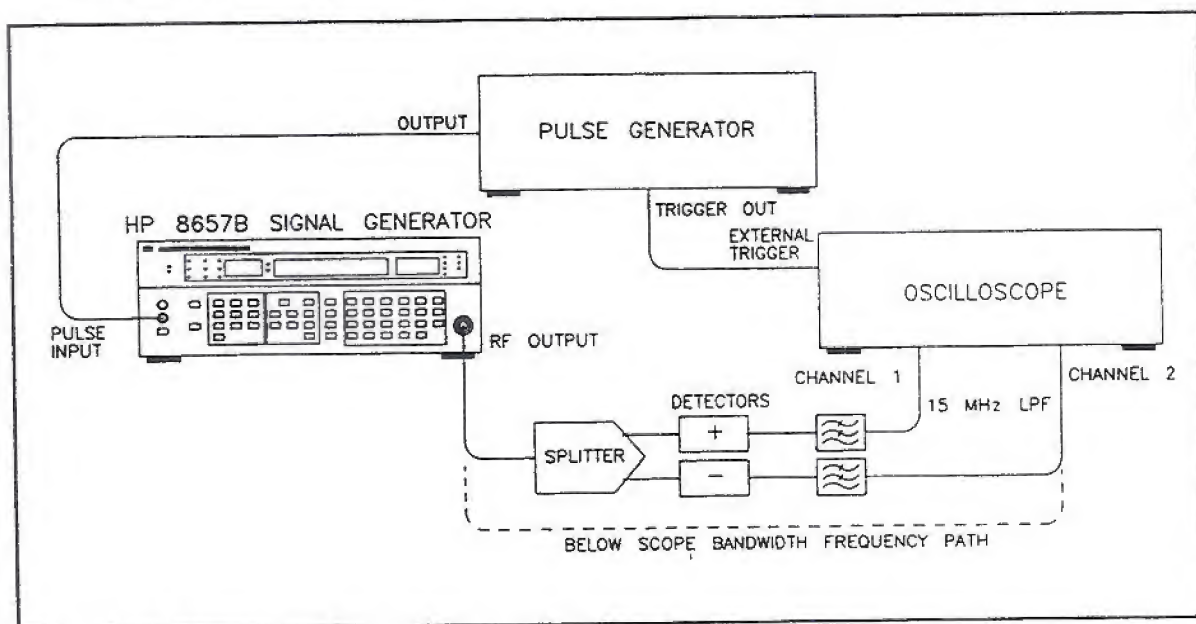
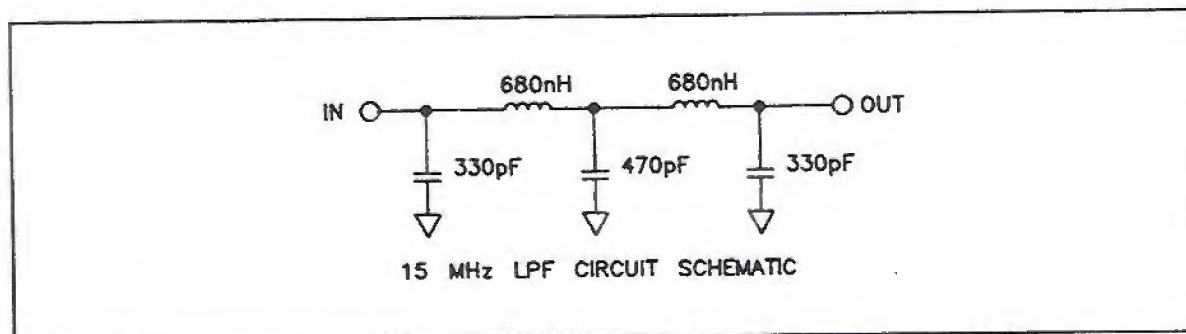

Figure 4-14. Rise/Fall Time Test Setup with Peak Detectors
Figure 4-15. Schematic for 15 MHz Low Pass Filters
15 MHz Low Pass Filter (2 Required)	(See Figure 4-15)
36. Connect the equipment as shown in Figure 4-14. Low Pass Filters can be constructed using the schematic in Figure 4-15.